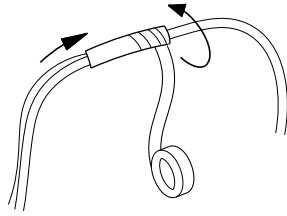

Fig. 27 Insulating the joint
5. Pull the insulating hose around the motor conductors up over the joint. Wind insulating tape or similar around the ends of the insulating hose in order to fasten it over the joint. See figs 27 and 28.